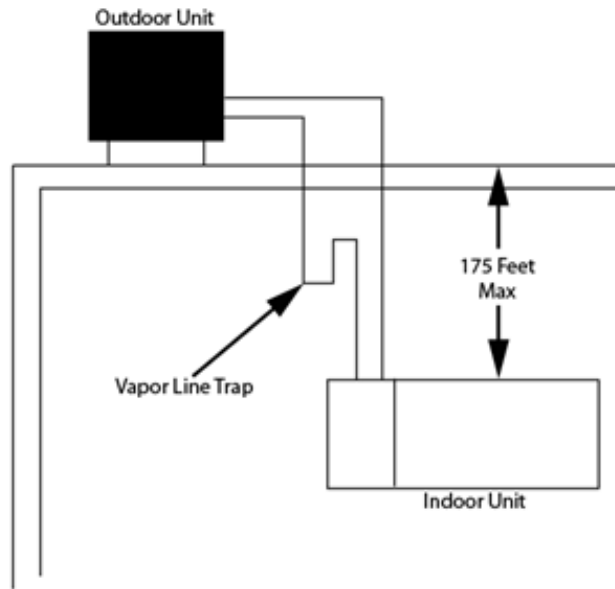

Figure 3. Air Conditioner Or Heat Pump – Outdoor Unit Above Indoor Unit
- If vertical separation is greater than 50 feet, install a vapor line oil trap 50 feet above indoor unit and every 40 feet up to outdoor unit elevation. See Figure 3.